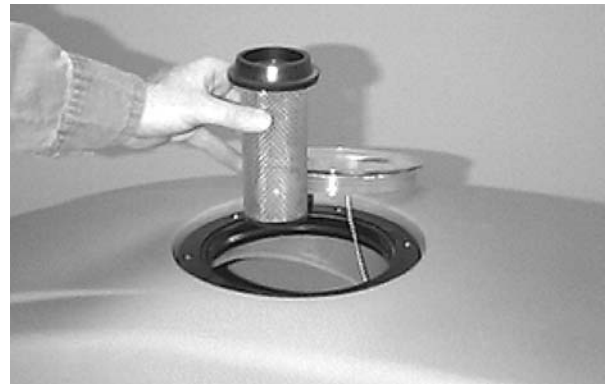

FIG. 22
- Remove and clean the float shut-off screen located in the recovery tank (Figure 22).